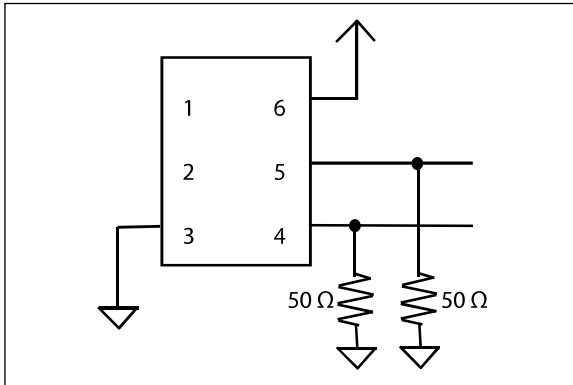
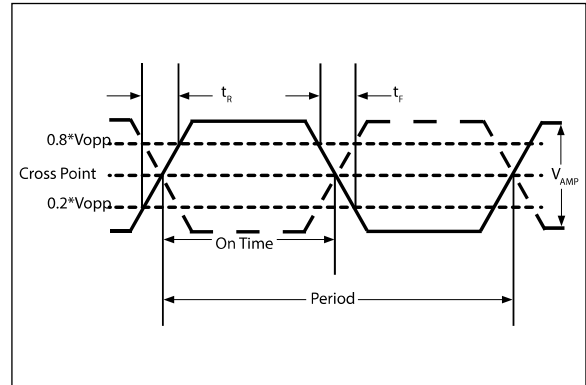

FIGURE 1-4: Test Circuit.
FIGURE 1-5: Test Circuit Parameters.
- Note 2:** Figure 1-4 defines the test circuit and Figure 1-5 defines these parameters.